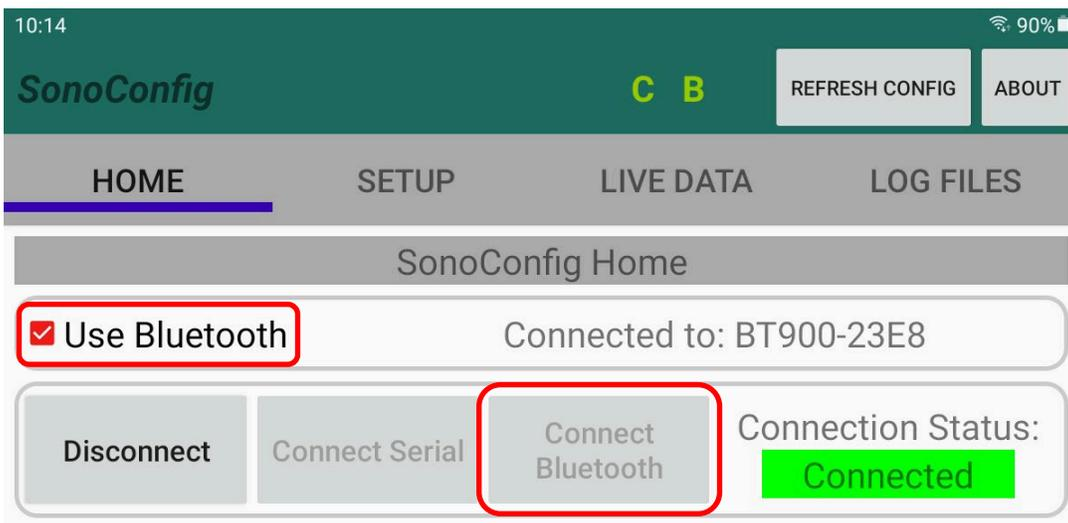

Figure 3: Bluetooth Connection Established
- b. For Bluetooth connection, check the “Use Bluetooth” option and then click the “Connect Bluetooth” button as highlighted in Fig 3. The HOME screen should indicate a GREEN connection status and show a “B” in the top banner to indicate that a Bluetooth connection has been established.